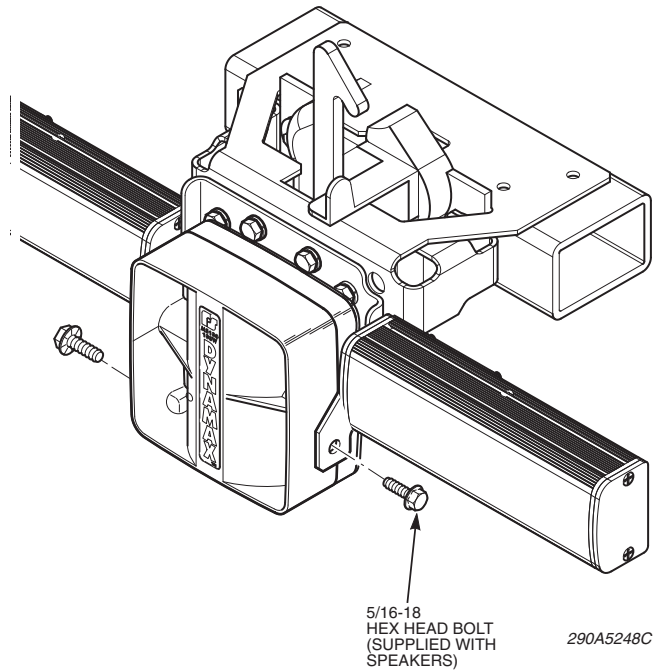

Figure 6: Mounting the speaker
2. Adjust the speaker so that the front face of the speaker is perpendicular to the ground (*Figure 6* on page 7).